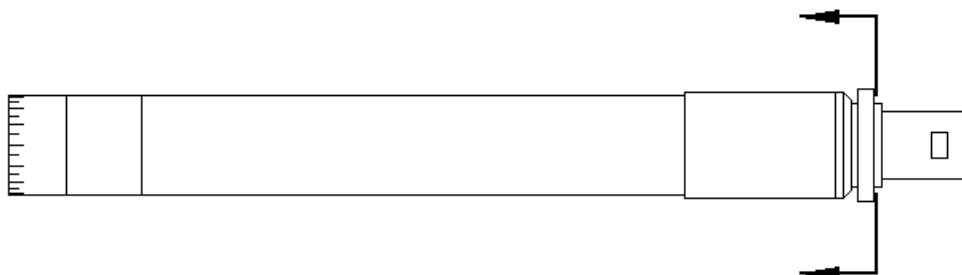

Fig. 4.1. Disconnecting of microphone preamplifier equipped with LEMO connector.
- do not apply excessive force to connect or disconnect LEMO connectors as these are equipped with facilities to avoid improper connection; the way to disconnect microphone preamplifier equipped with LEMO plug is shown on Fig. 4.1.